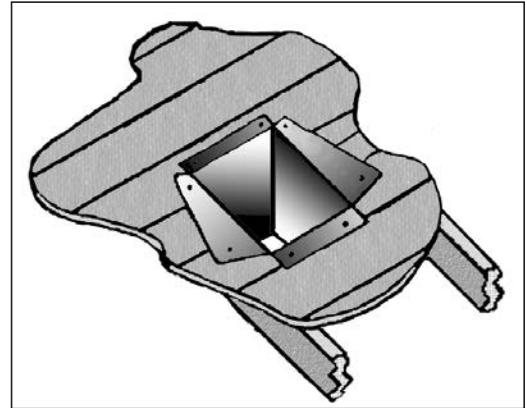

Figure 35: Cathedral Ceiling Support Box Installation.
- Using tin snips, cut the "Support Box" from the top corners down to the roof line, and fold the resulting flaps over the roof sheathing (Figure 35). Before nailing it in to the roof, run a bead of non-hardening mastic around the top edges of the "Support Box", to make a seal between the box and the roof. Clean out any combustible material from the inside of the "Support Box".